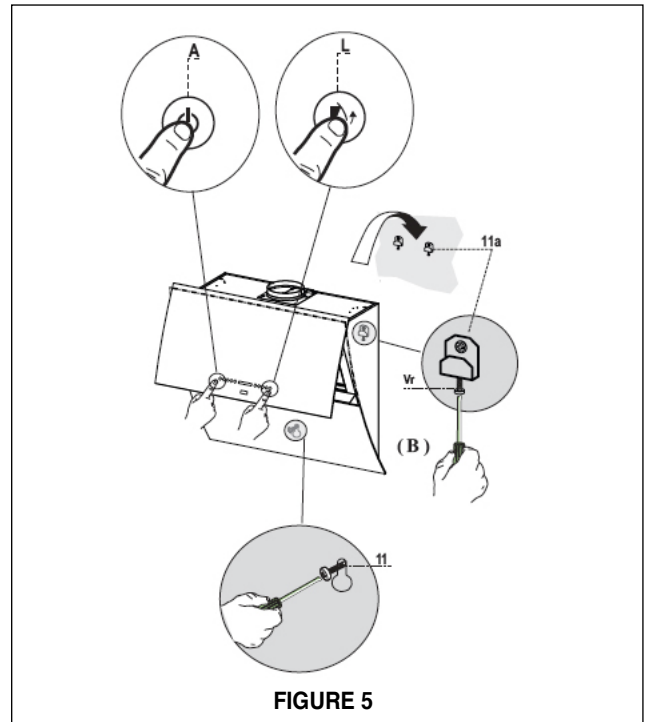

FIGURE 5
1. Adjust the two screws on the mounting hardware (B in FIGURE 5) to the lowest point
5. From the inside of the hood, adjust the mounting screws to make the hood level (B in FIGURE 5). Install safety screws (11 IN FIGURE 5) and reinstall the grease filters and close the upper panel